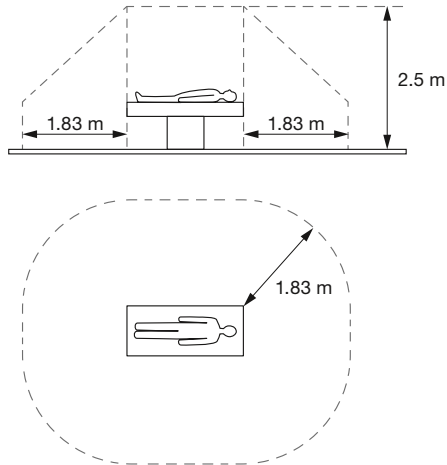

Figure 1 Minimum distance between iPad charger / iPad with plugged-in charger and patient
- When charging the iPad, maintain the minimum distances from the patient defined in Figure 1, as the iPad does not have a medical charger.